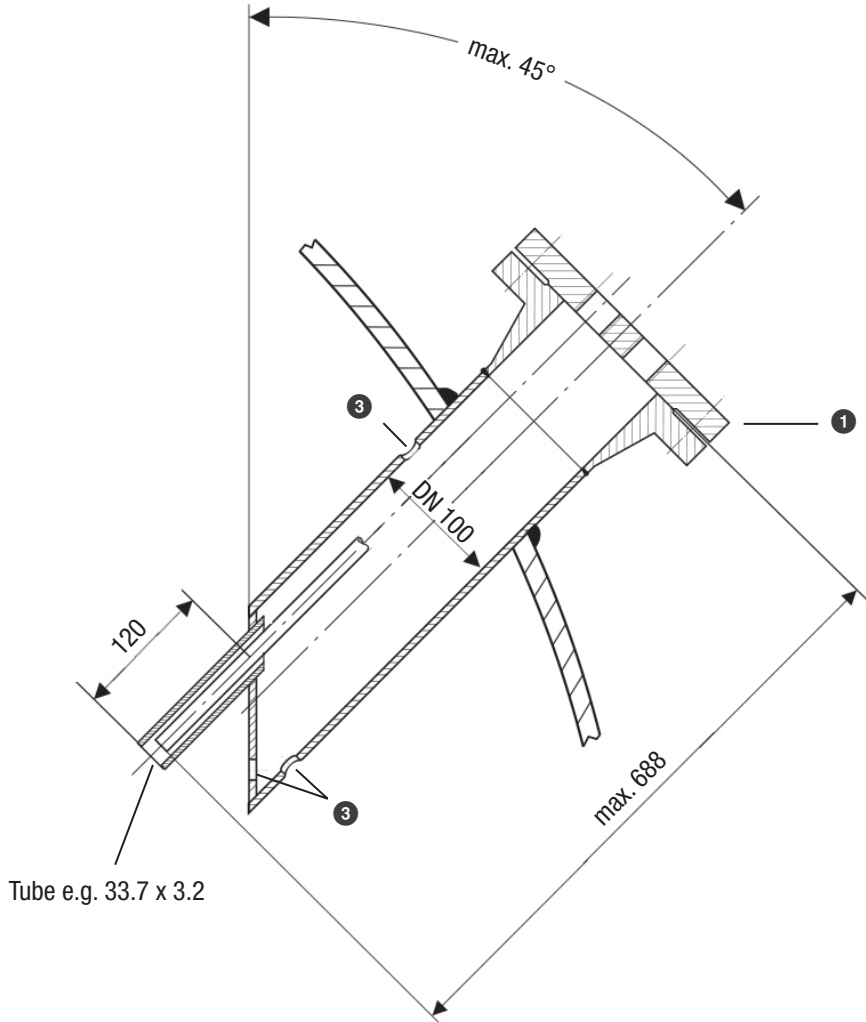

Fig. 15
- The level electrode may be inclined at 45° only when being used in a two-hole flange, with the length of the electrode rod limited to 688 mm maximum, see Fig. 15.
- Pay attention to the minimum clearances when installing the level electrode, see installation examples Fig. 11 to Fig. 15.
Key Fig. 11 to Fig. 15